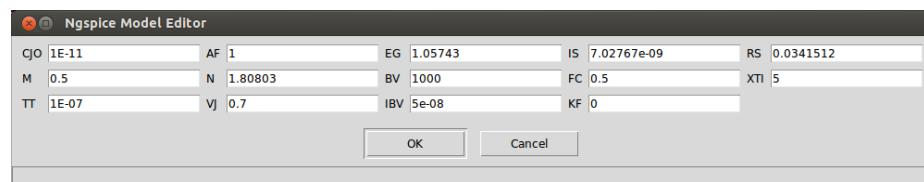

Figure 4.19: Model builder window showing model of diode
open. This window will contain the various parameters governing the model of diode, for example reverse breakdown voltage (BV), ohmic resistance (RS) etc. This is illustrated in figure 4.19. To know more about how to use this feature, refer chapter 8.